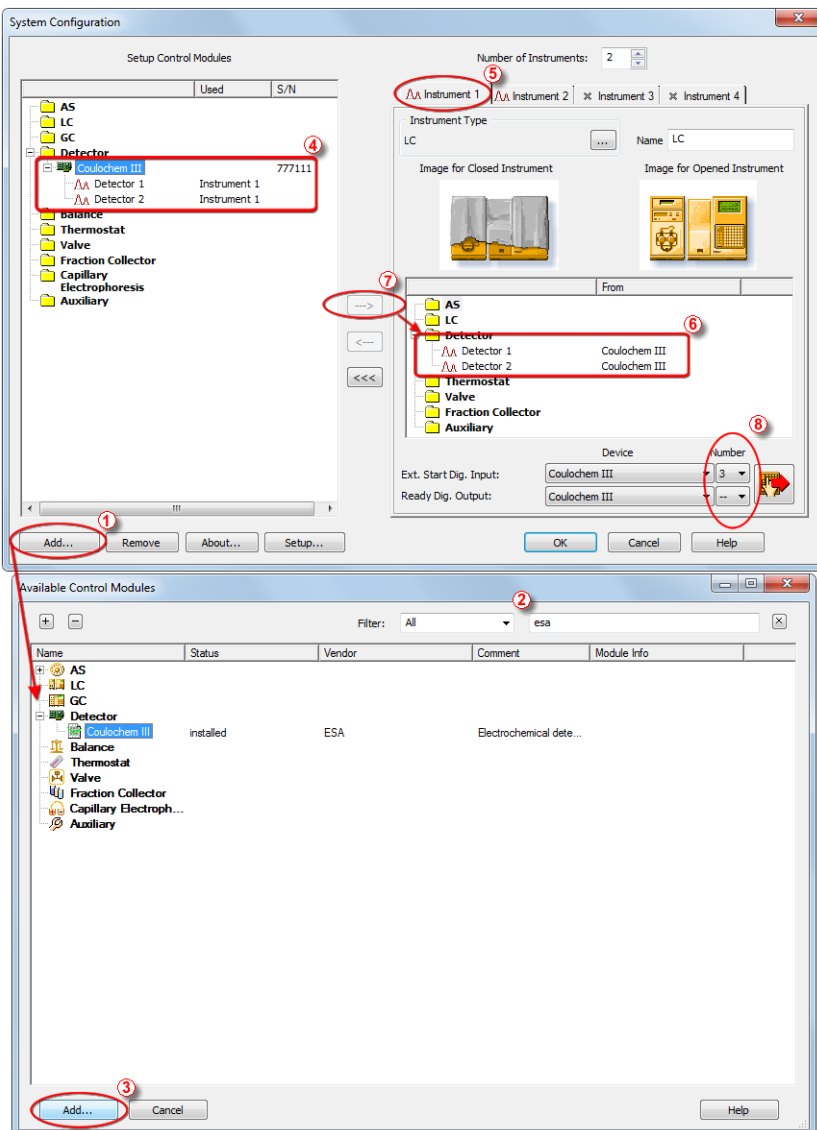

Fig. 2: System Configuration
- Press the *Add* button ① (see **Fig. 2** on pg. 4.) to invoke the *Available Control Modules* dialog.
- You can specify the searching filter ② to simplify the finding of the driver.
- Select the **Coulochem III** detector and press the *Add* ③ button.